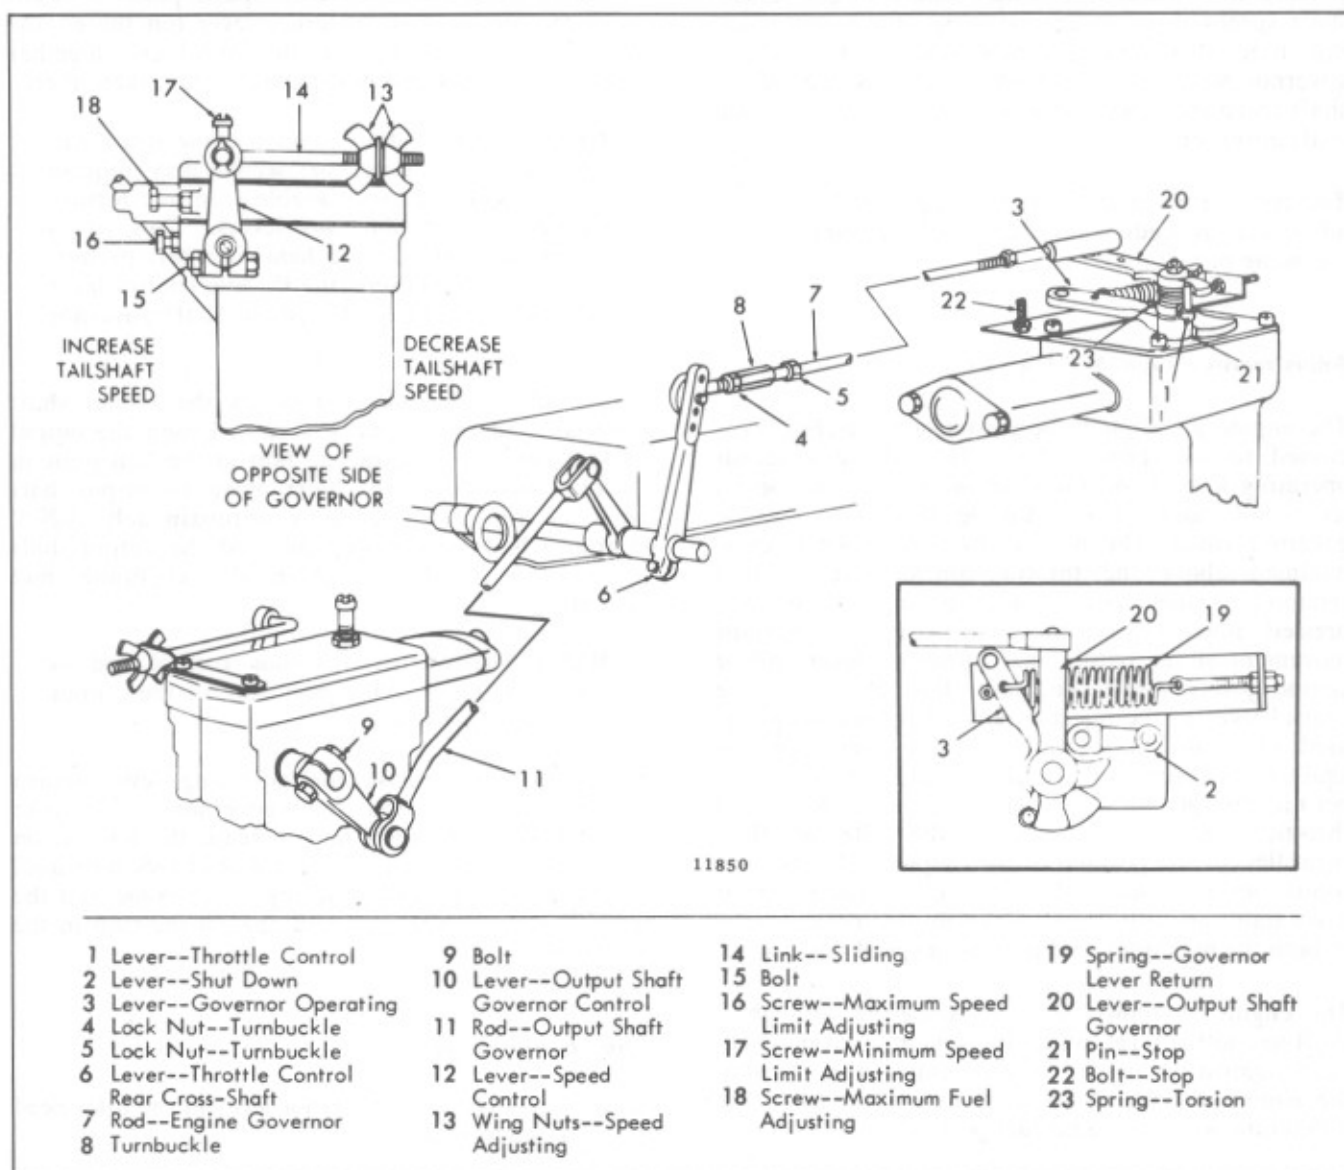

FIG. 1 - Hydraulic Output Shaft Governor and Linkage (Type A)
The output shaft governor is connected to the engine governor by control rods and levers (Figs.1 and 2). The control rod end ball joints are sealed assemblies and do not require lubrication. However, the throttle control shaft bearings should be lubricated periodically with all purpose grease through the grease
In some types of operation, such as laying of structural steel, it is desirable to operate the unit with a very low output shaft speed. This speed could be so low that the output shaft governor ball head assembly would not actuate the governor pilot valve and spring seat assembly. In such applications, the engine governor operating lever (6), Fig. 1, or the remote throttle control lever (1), Fig. 2, used as an overrule lever, can be moved toward the idle speed position sufficiently to provide the desired low output shaft speed. Output shaft speeds down to zero can be obtained through this type of engine governor control. The engine governor would maintain control unless the output shaft speed increased to the speed setting of the output shaft governor.
Adjustments (Type A - Fig. 1)
The engine governor throttle control lever (Fig. 1) is pinned to the throttle shaft. The engine governor operating lever is mounted below the throttle control lever and rides on the throttle shaft boss on the governor cover. The output shaft governor lever is mounted above the throttle control lever and is retained on the shaft by a snap ring. A stop pin, pressed into the throttle control lever, transmits movement of the output shaft governor lever and/or engine governor operating lever through the throttle control lever to the injector racks. The torsion spring, used to retain the throttle control lever stop pin against the output shaft governor lever, yields to permit the governor operating lever to move the throttle control lever toward the idle position, regardless of the position of the output shaft governor control lever. A slot in the underside of the governor cover hub limits the travel of the throttle control lever in both the maximum and minimum speed positions.
1. Connect the linkage to the governor operating lever (Fig. 1) and check the total travel of the lever. The lever should move to the stop bolt in one direction and the governor lever return spring should move the lever, in the other direction, until the throttle control lever reaches the end of its travel.